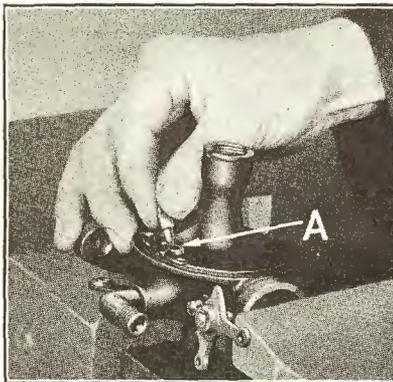

Fig. 430
- 878 Withdraw gasoline inlet needle from inlet seat (See "A" Fig. 430).